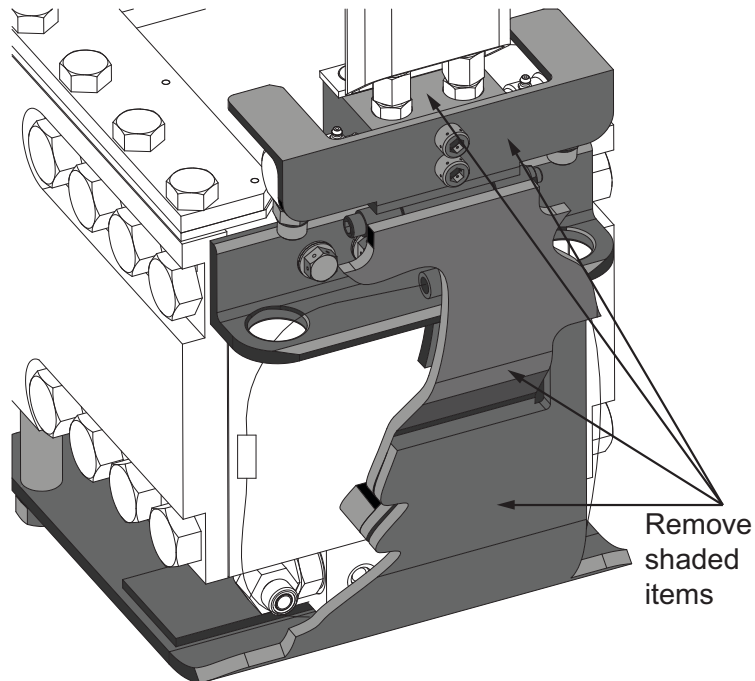

Figure 2: BUW Guard (Previous Version)
1. Remove the following original components from the BUW assembly (see Figure 2 on page 3):